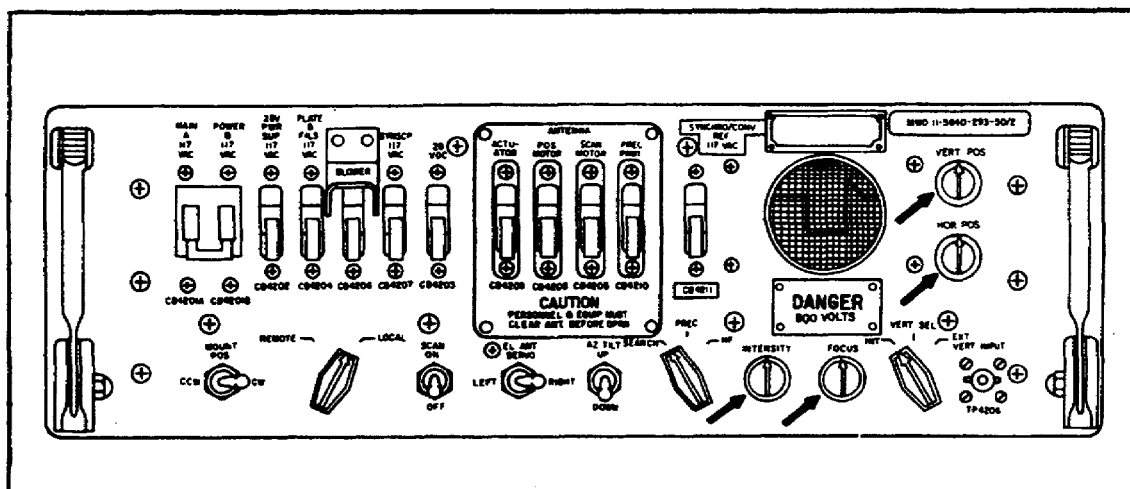

Figure 54. Adjustment of VERT POS, HOR POS, Intensity, and FOCUS controls.
n. Adjust VERT POS, HOR POS, INTENSITY and FOCUS controls as required to obtain a clear display on the CRT in control-monitor C-2124/FPN-33. (See Figure 54.)
- _____ VERT POS control on control-monitor C-2124A/FPN-33 (Figure 54)
- _____ HOR POS control on control-monitor C-2124A/FPN-33 (Figure 54)
- _____ Intensity control on control-monitor C-2124A/FPN-33 (Figure 54)
- _____ Focus control on control-monitor C-2124A/FPN-33 (Figure 54)